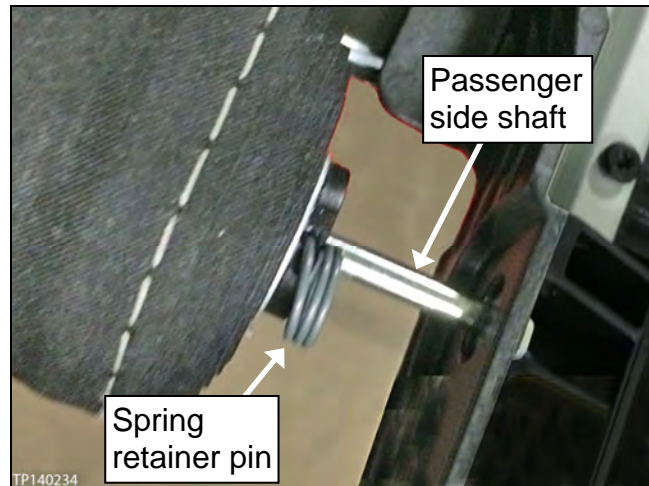

Figure 19
8. First insert the sunshade's passenger side shaft in the sunshade base, and then the driver side (see Figure 19).
9. With the sunshade in place, remove the spring retainer pin (see Figure 19).